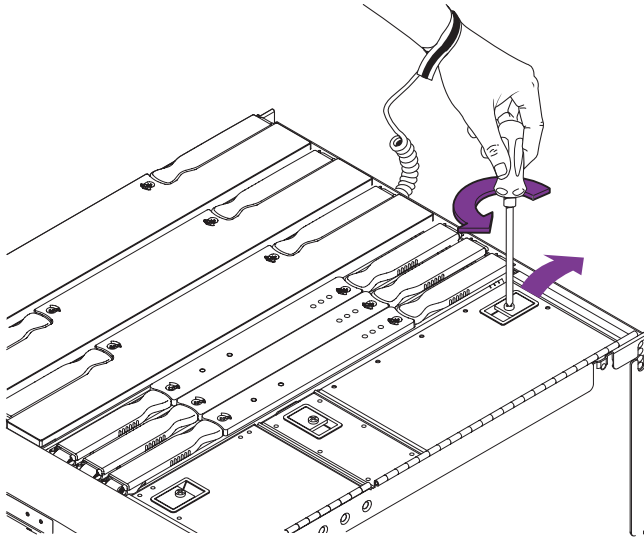

FIGURE 8-7 Opening the PCI Bay Cover
7. Open the PCI bay cover (FIGURE 8-7).